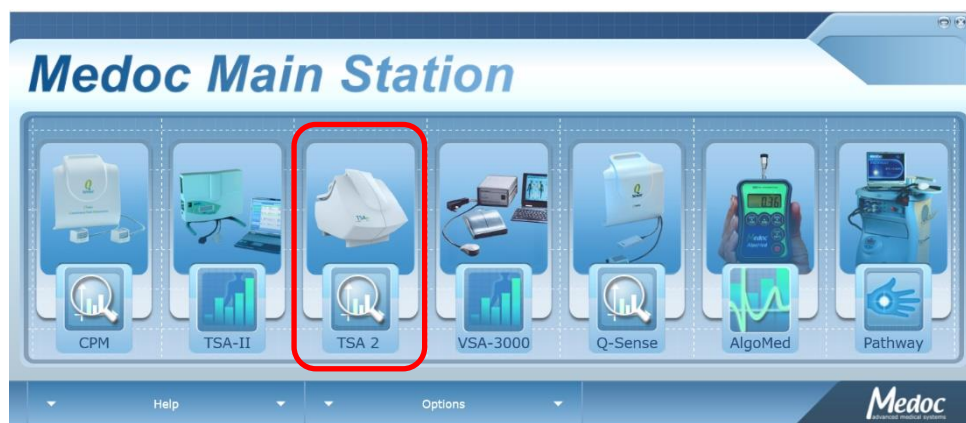

Figure 6: MIMIS Home Screen
3. The Home Screen is displayed showing the devices available under your license. Choose TSA 2 (marked in red - see figure 6).